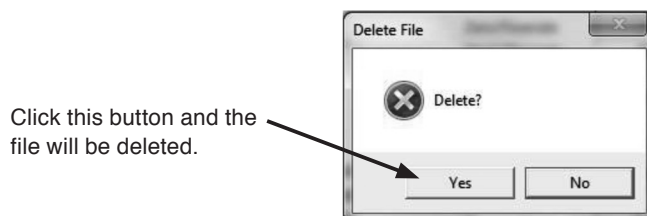

Fig.65
- ① Click on "File (F)" at top-level menu of the screen, select "Database (F)", select "Delete File (D)" and click on again.
- ② Select the disk and folder that contains the file you want to remove from the dropdown list.
- ③ Select the file you want to remove by clicking it. Only files with the extension ".ove" can be deleted.
- ④ In response to the click, the file you selected opens and a message box as shown in Fig. 65 appears. Click on "YES" button to delete, or "NO" to not delete. Clicking on "YES" deletes that file.